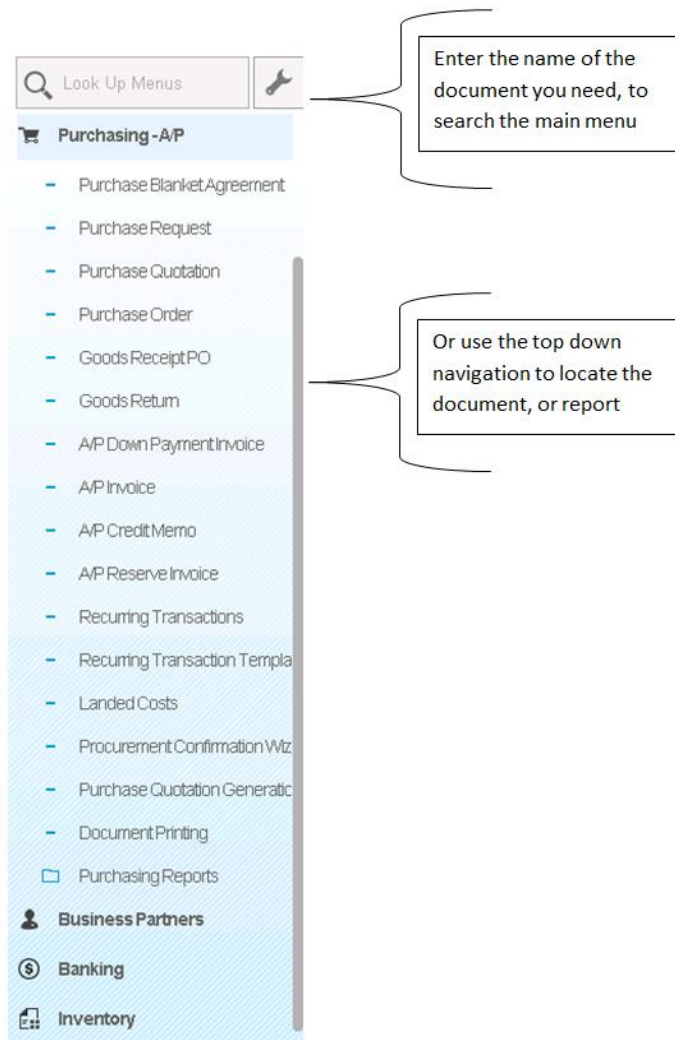

Figure 2-3: Navigation from the *Main Menu*
The second key thing to learn about SAP Business One is how to use the main menu to find documents or master data records. When you first start SAP Business One, the *Main Menu* is shown. Using the *Main Menu*, as shown in Figure 2-3, you can open links leading to windows from which you can search for a particular document or scroll through all the documents of a particular type.
**SAP Business One version for SAP HANA note:** as noted before, the look and feel can be different based on the version of SAP Business One that you are running. Figure 2-3 is a representation of the main menu in the HANA version. Figure 2-3 is a representation of the main menu in SQL version